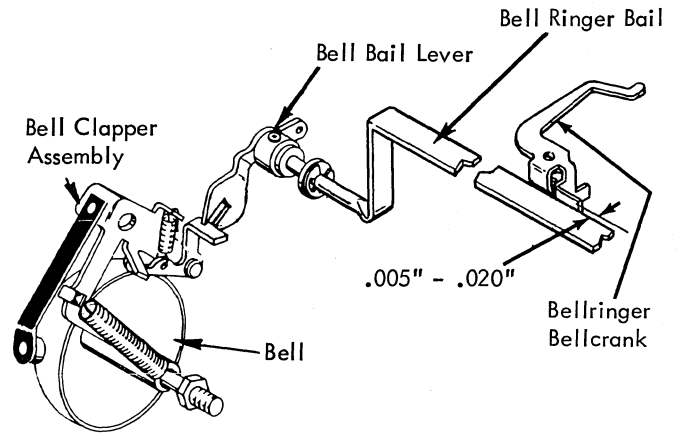

FIGURE 181. Bell Bail Lever (Late Style)
- b. Late - With the carrier positioned away from the right hand margin stop, adjust the bell bail lever located on the left end of the bellringer bail so that when the bottom portion of the lever is allowed to contact the underside of the bell clapper bellcrank lever a clearance of $.005$ " to $.020$ " will exist between the bellringer bail and the bellringer bellcrank (Fig. 181).